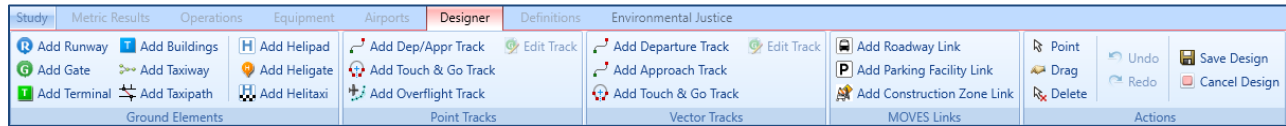

Figure 8. Airports Designer Tab
1. Click on the *Designer* tab (Figure 8). AEDT will load all of the airport layout features.
2. In the *Point Tracks* ribbon group, click *Add Dep/Appr Track* (Figure 8). A pencil icon replaces the mouse cursor.